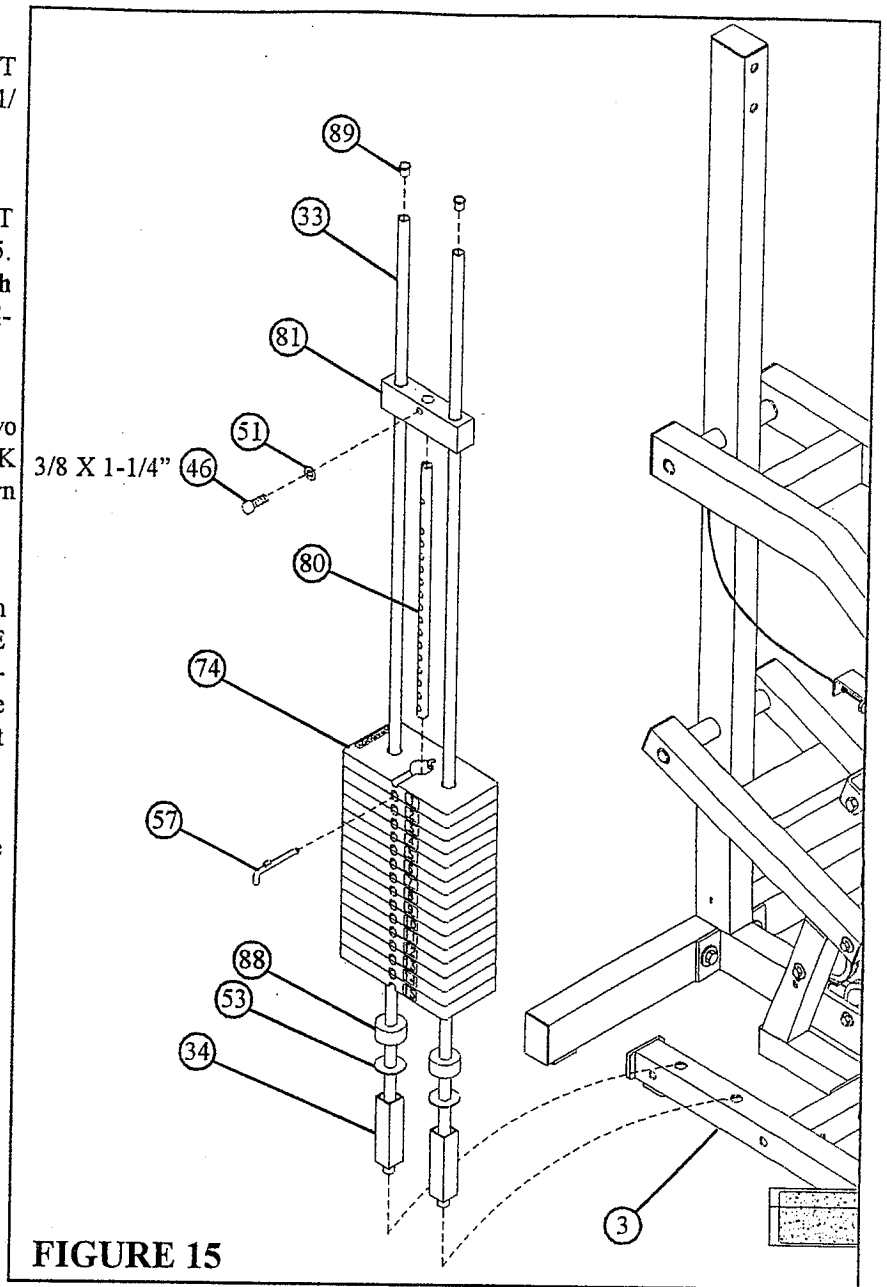

FIGURE 15
- Securely assemble the WEIGHT STACK SHAFT (80) to the HEAD PLATE (81) using one 3/8 X 1-1/4" BOLT (46) and one 3/8" WASHER (51).
- Insert two GUIDE RODS (33) into the WEIGHT STACK BASE (3) as shown on FIGURE 15. (NOTE: Lubricate GUIDE RODS (33) with silicon or teflon spray available at most hardware stores.)
- Slide two WEIGHT STACK SPACERS (34), two 3/4" WASHERS (53), and two WEIGHT STACK CUSHIONS (88) - **IN THAT ORDER** - down over the GUIDE RODS (33).
- Using **EXTREME CARE** slide all fifteen WEIGHT PLATES (74) down over the GUIDE RODS (33) on to the WEIGHT STACK CUSHIONS (88). Make sure that the keyholes of the WEIGHT PLATES (74) are all facing the right way.
- Slide the head plate assembly down over the GUIDE RODS (33) onto the weight stack.
- Insert two CAP PLUGS (89) into the top ends of the GUIDERODS (33).
- Attach the WEIGHT STACK LABELS (94) to the weight stack. Also insert the WEIGHT STACK PIN (57) into the first WEIGHT PLATE (74) of the weight stack.